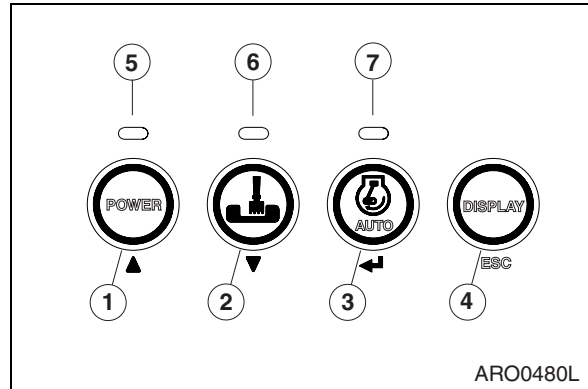

Figure 45
2. Select a proper power mode using buttons (Figure 45) before starting work.
3. When the power mode button (1, Figure 45) is pressed, a signal sounds, changing the power mode to either "Power Mode" or "Standard Mode." When the power mode is turned "ON," the LED indicator (5, Figure 45) turns "ON."
Deactivate the power mode by pressing it a second time. When the power mode is turned "OFF," the LED indicator (5, Figure 45) turns "OFF" and the power mode returns to the standard mode.